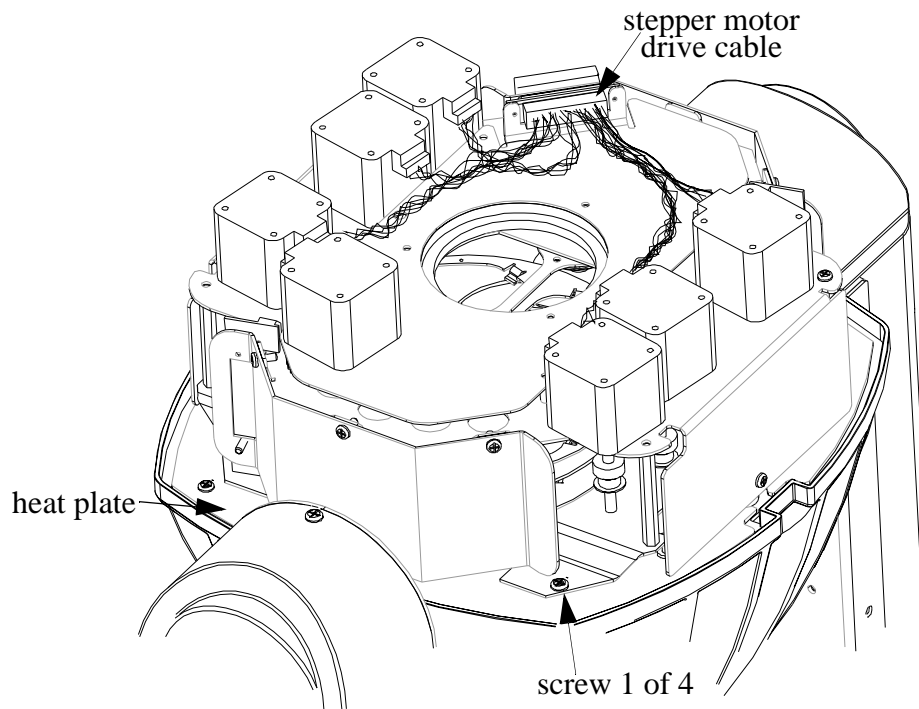

Figure B.2. Stepper Drive Cable Removal
4. Disconnect the stepper motor drive cable from its connector. Refer to Figure B.2.